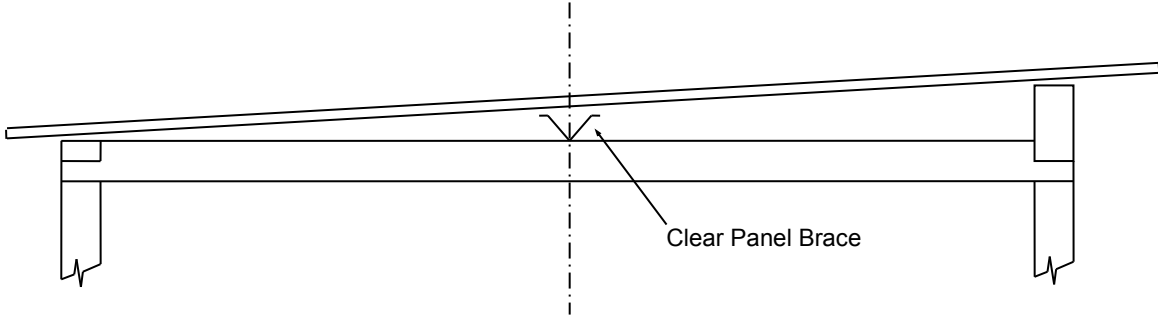

fig. 3
Step 1a: Pre-drill hole in V at both ends of Clear Panel Brace. Position Clear Panel Brace centrally on Top End Plates and nail in place using a 30mm clout each end (**fig. 3**).